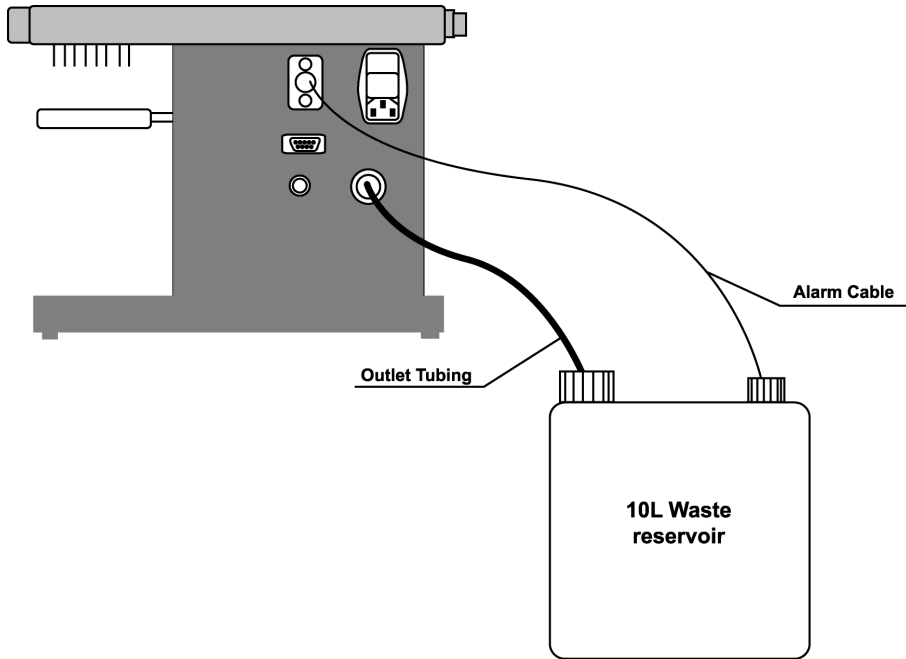

Figure 1: Waste reservoir
Step 4 Connect Waste Reservoir (refer to Figure 1).